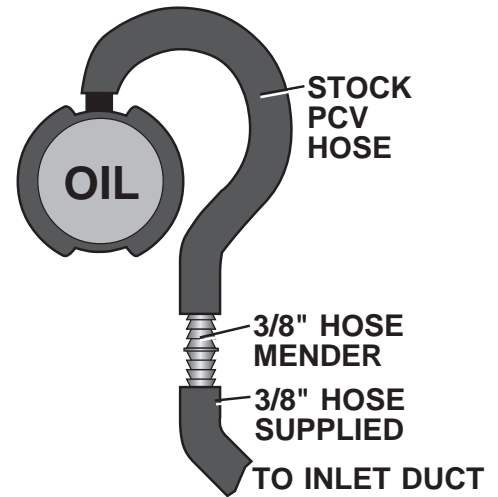

Fig. 15-a
- Using the 3/8" hose mender and length of 3/8" hose supplied, fit into the stock PCV hose and route to the barb fitting on the inlet duct of the supercharger. (See Fig. 15-a.)